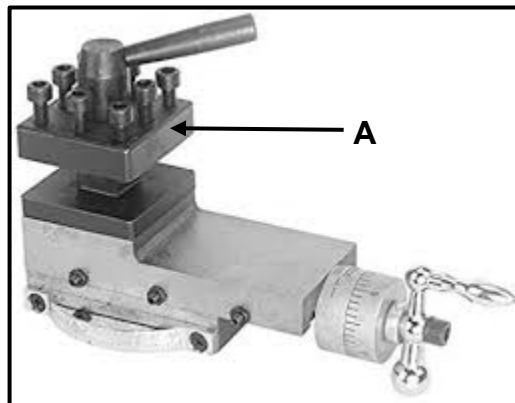

FIGURE 4.1
- 4.1 Identify the lathe component **A** shown in FIGURE 4.1 below.